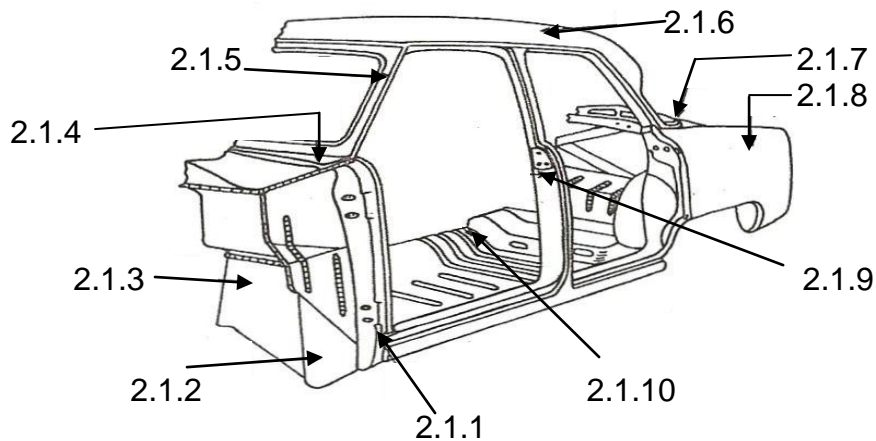

FIGURE 1
2.1 FIGURE 1 shows a motorcar body construction and main body components.